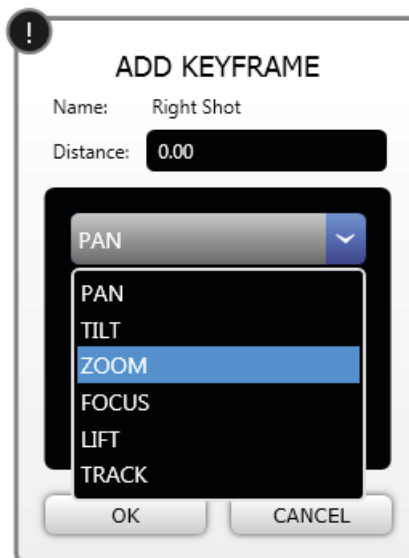

Figure 39 - ADD KEYFRAME Dialog Box with Axis List Expanded (Furio robot)
- a. In the axis list, select the linear axis you want to configure (Figure 39).